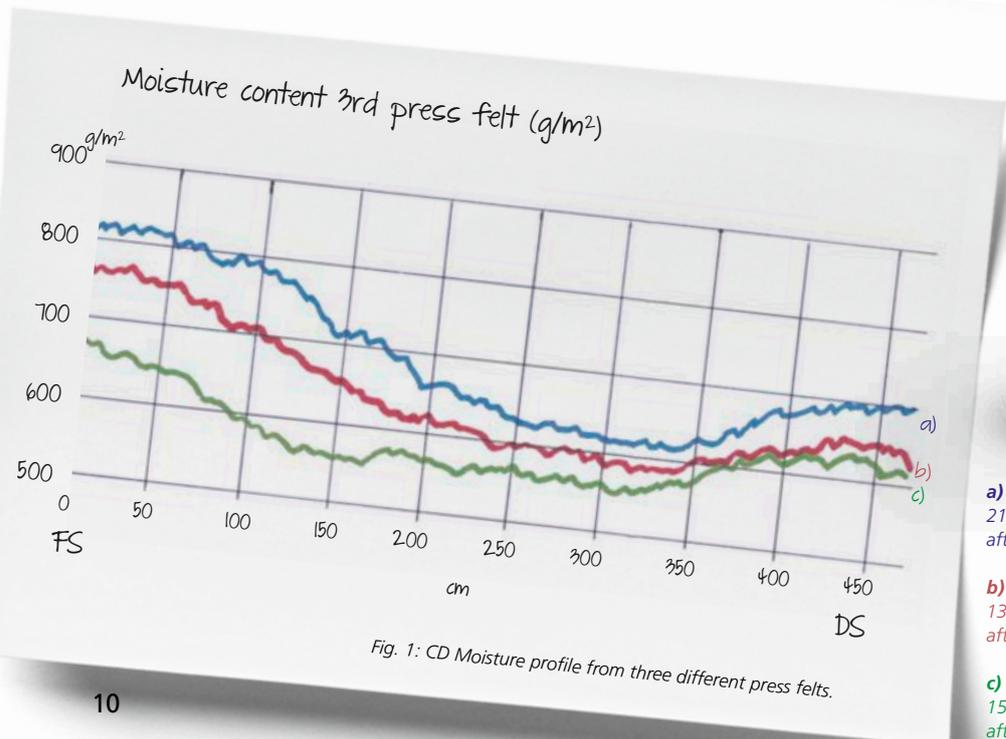

Fig. 1: CD Moisture profile from three different press felts.
interesting occurrences: While both 1st and 2nd press felts operated without problems, in the 3rd press **the CD moisture profile was uneven again and again** (see figure 1). On a machine with a width of 4.5 metres the areas around the edges (front side (FS) and drive side (DS)) clearly showed more moisture than in the centre. This was despite the fact that the press section had been aligned by specialists prior to our visit at the request of our customer. We could therefore establish right from the start: **The two press rolls are aligned perfectly in parallel** so that "crossed alignment" could be excluded as a source of the fault.
Figure 1 shows the moisture profiles of three press felts from different clothing suppliers (water content in g/m2 felt). Besides our Atromaxx.CONNECT felt a competitor's products had at other points in time been installed in the same position. The result was the same, however: differences in moisture content in the cross direction. We therefore concluded that the **cause of the problem must be in the configuration of the press** – even though, as already mentioned, parallel alignment had been checked. At this point the nip profiles had to be investigated further. So we set to work with our measuring equipment. Here, as always, the principle **"safety first!"** is paramount. After all, there is **a drop of four to five metres under the seam felt**, and you can never be sure that it is strong enough to support a fall.